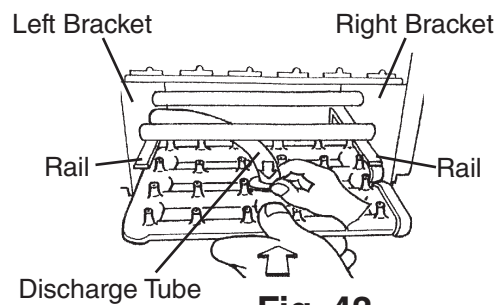

**Fig. 41**
- 8) Remove the two caps. See Fig. 41.